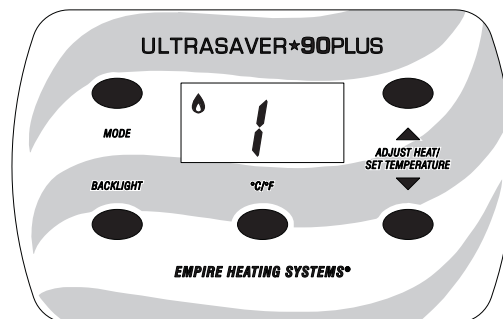

Figure 58
4. After 20 seconds, the gas valve will open and the burner will ignite on high. The flame sensor will verify the flame is present within six seconds and the green light on the control board will illuminate. The flame icon will display in the top left corner of the display panel once the controls verify the flame presence. **See Figure 58.**